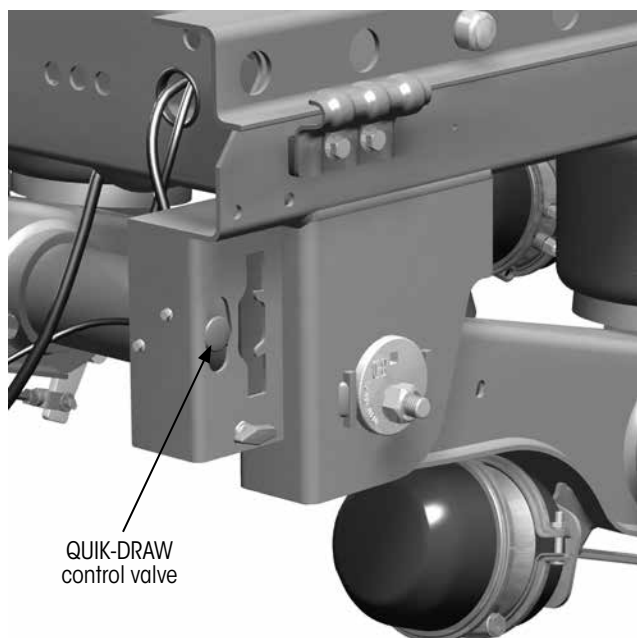

Figure 1: QUIK-DRAW control valve location
4. **Pull** the QUIK-DRAW control valve knob (Figure 1) out to its fully extended position to pneumatically retract the locking pins.
10. Verify proper QUIK-DRAW operation by pulling the QUIK-DRAW control valve knob (Figure 1 on page 4) out to its fully extended position.
9. **Verify** proper QUIK-DRAW® operation by **pulling** the QUIK-DRAW control valve knob (Figure 1 on page 4) out to its fully extended position.